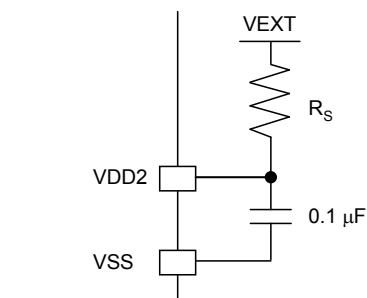

Fig. 1
- When the external supply voltage $V_{EXT} = 4.5\text{ V}$ to 5.5 V , connect a $5.1\text{-k}\Omega$ resistor R_S between VEXT and VDD2 as shown in Fig. 1.